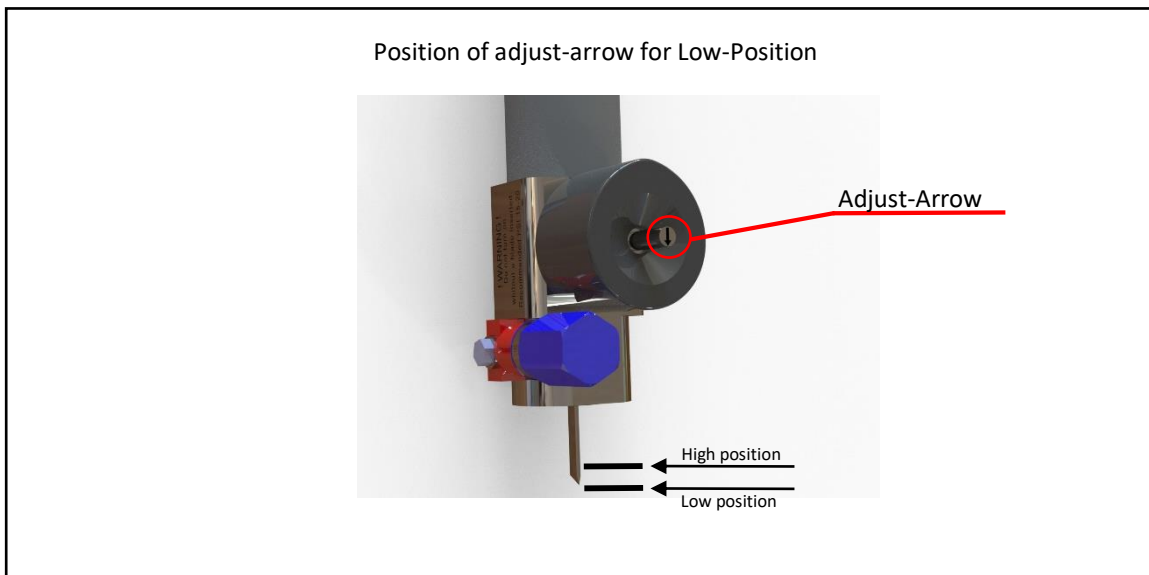

Figure 9: Adjust cutting depth (exemplary presentation).
2. Rotate the shaft of the Motor (by index finger and thumb) till Adjust-Arrow points down. (**Figure9**)
Only adjust cutting depth while E-Drive is in Low-Position (**Figure9**).